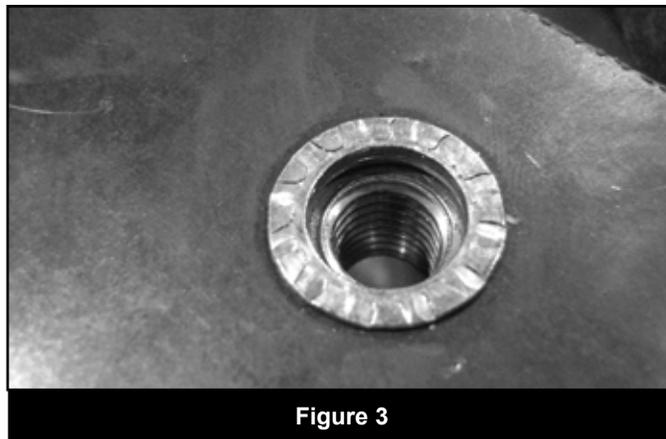

Figure 3
11. Verify proper installation by checking for consistent rivet nut deformation to see the threads are square and centered to the rivet nut. Figure 3.